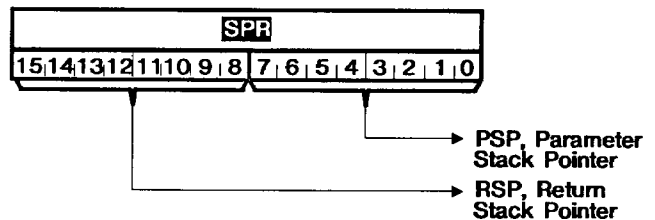

FIGURE 8. STACK POINTER REGISTER ( **SPR** )
**SPR** : The **Stack Pointer Register** holds the stack pointer value for each stack. Bits 8-15 represent the stack memory location being accessed for the Return Stack, while bits 0-7 represent the stack memory location being accessed for the Parameter Stack. These must be accessed together, as **SPR** . See Figure 8.